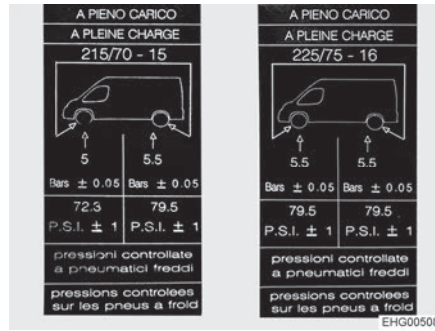

Fig. 114 Tyre pressure information sticker on B column (example)
- ▷ Information stickers with the required tyre pressure are attached to the inside of the B column (see Fig. 114).